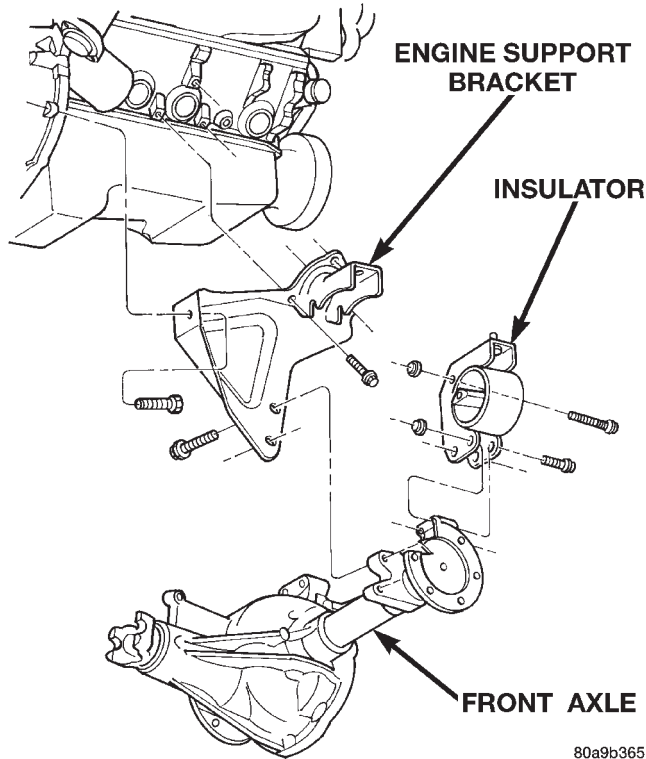
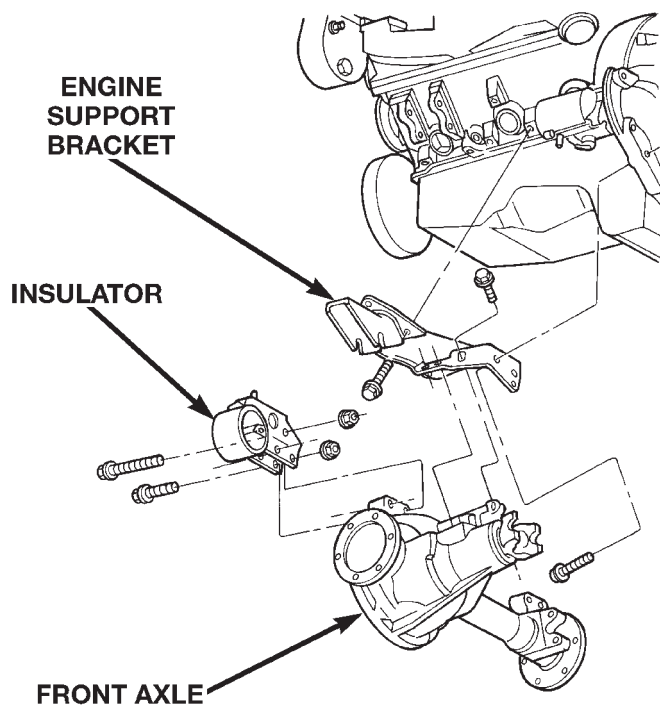
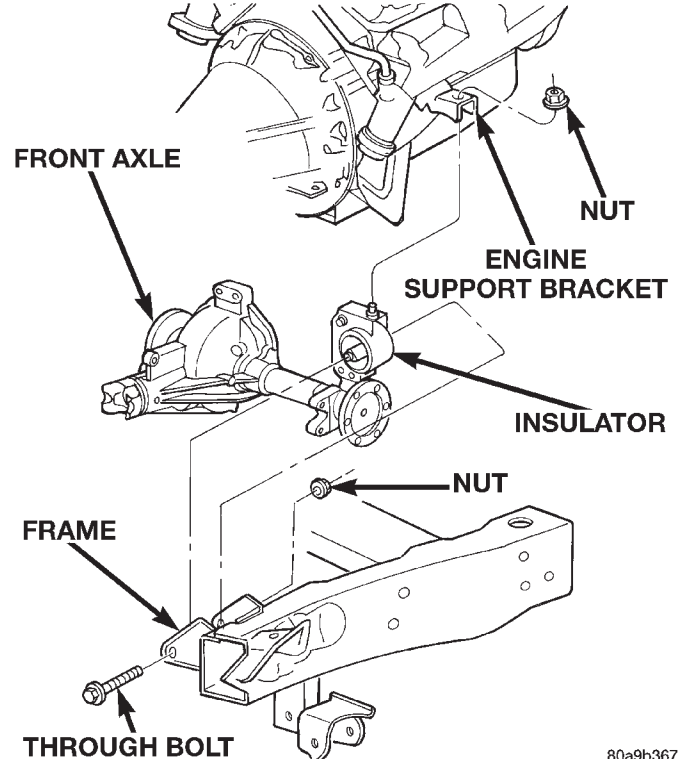

Fig. 14 Right Engine Mount Insulator and Support Bracket
Fig. 15 Left Engine Mount Insulator and Support Bracket
Fig. 16 Engine Mount Insulator at Frame
On 4WD vehicles the engine front support brackets attach directly to engine block and the axle housing. The brackets provide a solid interconnection for these units (Fig. 14) (Fig. 15). Engine must be supported during any service procedures involving the front support assemblies.
- (1) Disconnect the negative cable from the battery.
- (2) Raise vehicle on hoist.
- (3) Install engine lifting (support) fixture.
- (4) Remove front axle assembly. (Refer to Group 3, Differential and Driveline in this publication.)
- (5) **Left mount insulator only.** Remove starter wires and starter motor assembly.
- (6) Remove insulator to frame through bolt (Fig. 16).
- (7) Raise engine slightly.
- (8) Remove upper insulator to support bracket stud nut and insulator to support through bolt.
- (9) Remove engine mount insulator. (Fig. 14) (Fig. 15).
- (10) If engine support bracket is to be removed/replaced, remove support bracket to transmission bell housing bolt(s) and three (3) support bracket to engine block bolts. Remove support bracket (Fig. 14) (Fig. 15).
(1) If engine support brackets were removed, install them and their fasteners (Fig. 14) (Fig. 15). Tighten support bracket to block bolts to 41 N·m (30 ft. lbs.). Tighten support bracket to transmission bell-housing bolt(s) to 88 N·m (65 ft. lbs.).
(2) Install Engine mount insulator and tighten insulator to support bracket nut to 41 N·m (30 ft. lbs.). Tighten insulator to support bracket through bolt nut to 102 N·m (75 ft. lbs.).
(3) Lower engine and install insulator to frame through bolt and nut (Fig. 16). Tighten nut to 95 N·m (70 ft. lbs.)
(4) Install starter motor and mounting bolts. Tighten bolts to 68 N·m (50 ft. lbs.)
(5) Connect starter wires.
(6) Remove engine lifting (support) fixture.
(7) Install front axle assembly. (Refer to Group 3, Differential and Driveline)
(8) Lower the vehicle.
(9) Connect the negative cable to the battery.